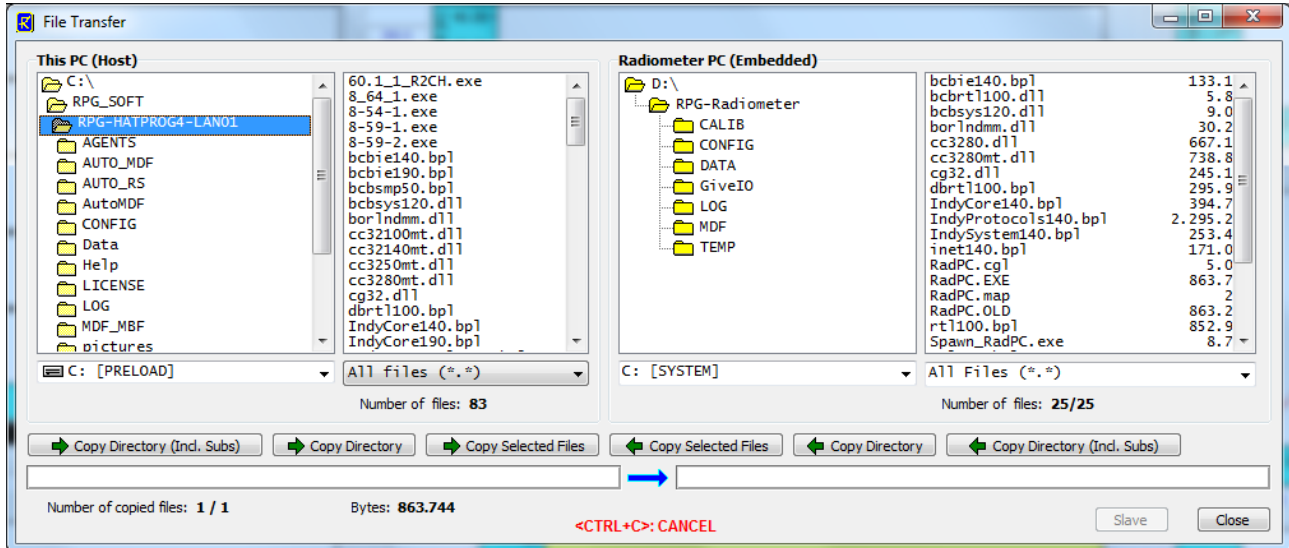

Fig.4.2.1: File Transfer Menu
- b) Connect the host to the radiometer and enter the File Transfer Menu (, Fig.4.2.1). On the left side (Host) browse to the directory for saving the files (e.g. C:\MyPath\ SAVE) and on the right side (Radiometer) in the RPG-Radiometer Directory mark the RadPC.EXE file. Then drag and drop the RadPC.EXE file to the C:\MyPath\ SAVE directory to initiate the copy process.
- a) Copy the new version of RadPC.EXE (the radiometer PC software) on an arbitrary directory on your hard disk (Host PC) (e.g. MyPath\RPG-HATPRO\Radiometer PC). Then enter the file transfer menu in Fig.4.2.1 and browse to that directory. Mark the RadPC.EXE file in the File-list and drag and drop it to the RPG-Radiometer Directory list on the Radiometer PC. Because you are now going to overwrite a file in the RPG-Radiometer Directory (which is password protected for write access) a password entry window pops up. Please enter the following password in exactly the way as it is printed here: